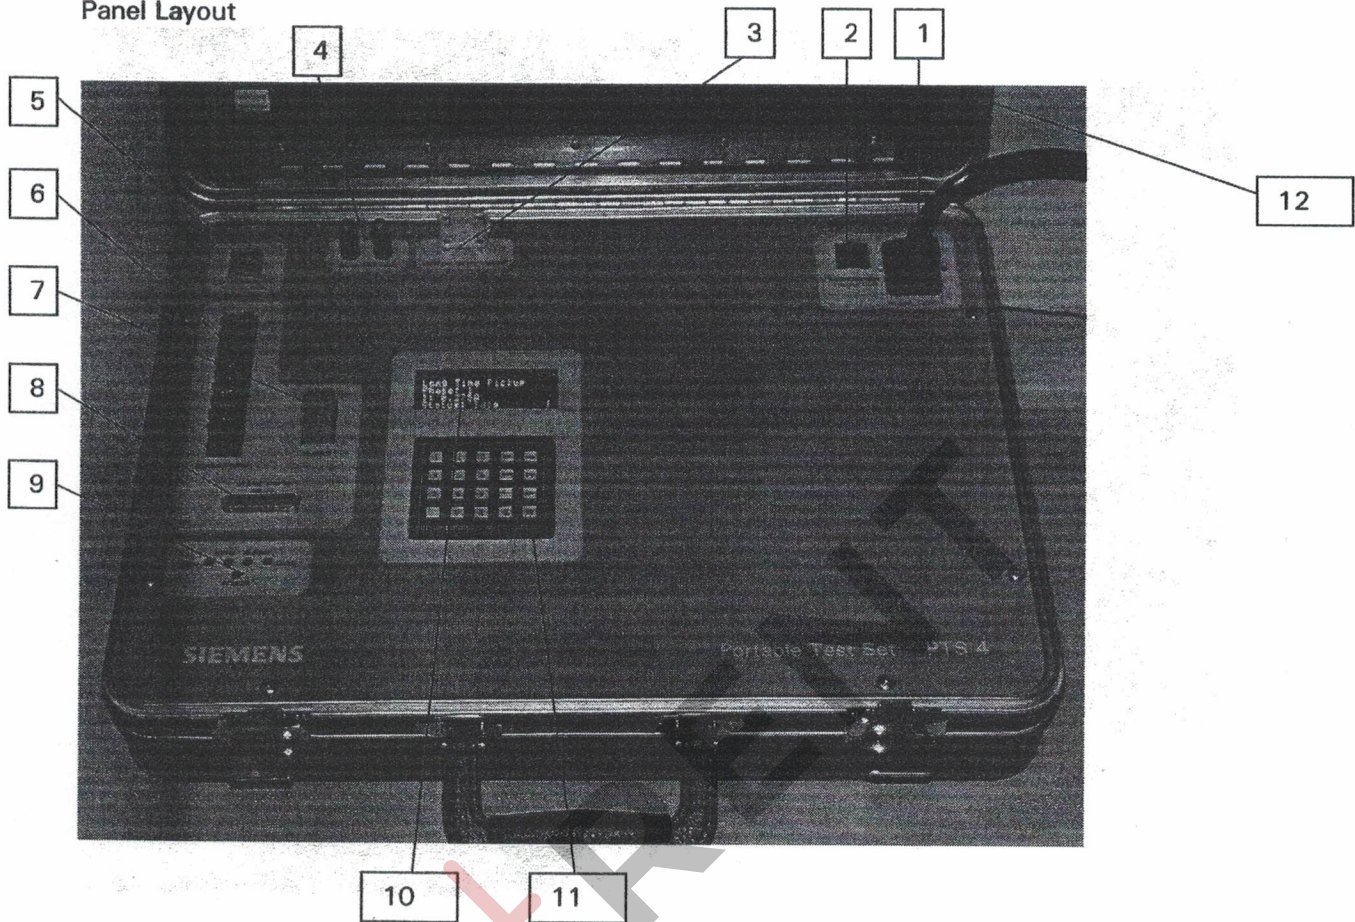

Figure 2
- 7) OUTPUT (15-pin Molex connector): Attach the test cable here. The test cable is used for tests where the STIII is attached to a circuit breaker. See Figure 2 which shows how to properly attach the test cable.
- ☐ If the STIII is completely removed from a breaker, then attach the fanning strip to the terminal block on the front panel per Figure 3. If the STIII is still attached to the breaker, connect the leads per Figure 2 to the test connector on the front of the breaker.